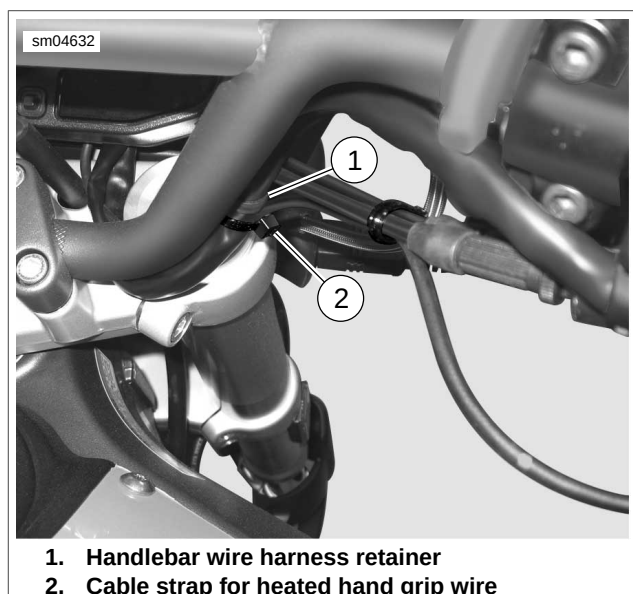

Figure 7-31. Location of Second Cable Strap, Right Side
3. See Figure 7-31. Install the next cable strap on the right side just below the second handle bar wire harness retainer.